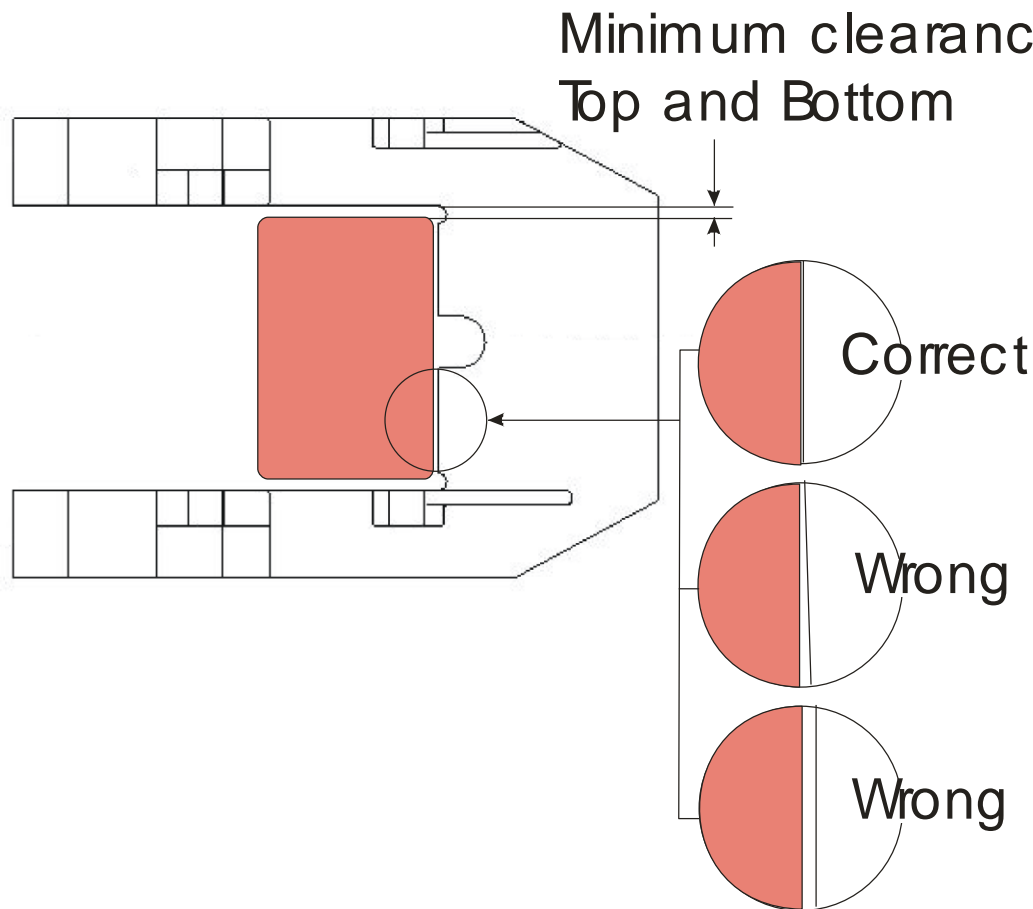

Figure 2
5. Check the clearance between latch and lug – top and bottom(Fig. 2).
6. Check that the latch and Lug faces are parallel (Fig. 2)